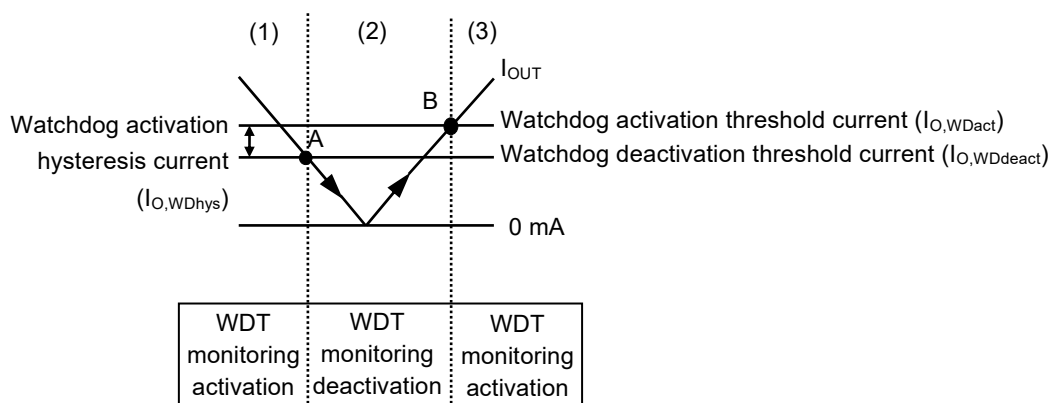

Figure 39 Autonomous Watchdog Operation Function
- (1) When I_{OUT} of the regulator is the watchdog activation threshold current ($I_{O,WDact}$) or more, the WADJ pin voltage (V_{WADJ}) is higher than the reference voltage (V_{ref}), and the output of the comparator (C1) is "H". At this time, the watchdog timer initiates the monitoring activation.
- (2) When I_{OUT} decreases to the watchdog deactivation threshold current ($I_{O,WDdeact}$) (point A in **Figure 39**) or less, V_{WADJ} decreases to V_{ref} or less and the output of C1 is "L". At this time, the watchdog timer deactivates the monitoring. Even if I_{OUT} increases, the watchdog timer continues the monitoring deactivation when I_{OUT} is within less than $I_{O,WDact}$.
- (3) If I_{OUT} further increases to $I_{O,WDact}$ (point B in **Figure 39**) or more, V_{WADJ} increases to V_{ref} or higher and the output of C1 is "H". And then, the watchdog timer initiates the monitoring activation.